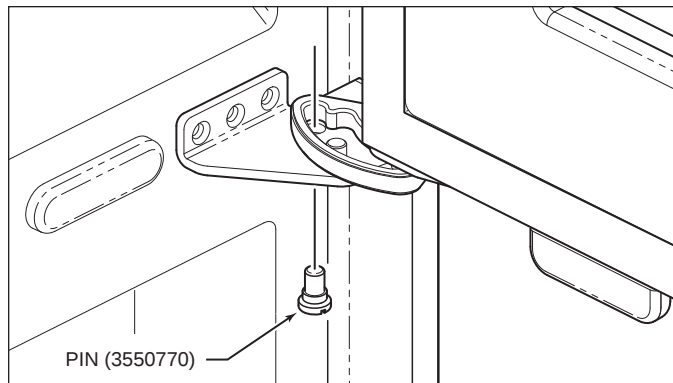

Figure 2-12. 90° Stop Pin (611G-3, 650G-3)
- Insert door stop pin up into threaded hole in lower cabinet hinge and tighten (See Figure 2-12).